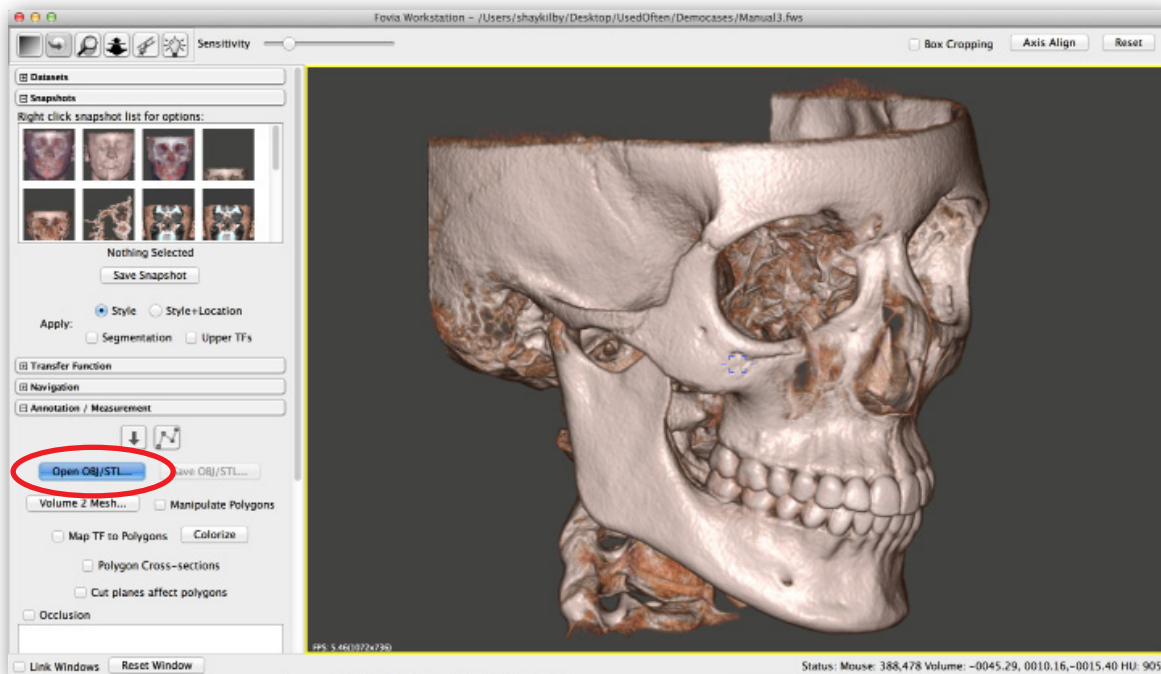
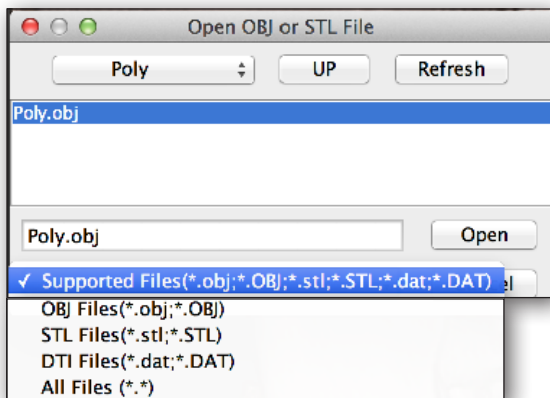

FIGURE 8.1: Polygon Import button
FIGURE 8.2: Configuration Dialogue-1
*XStream HDVR* supports real-time rendering and direct fusion of semi-transparent polygonal and volumetric data (without using a GPU). The Polygon Import function is located under the Annotation/Measurement Tab. Select the "Open OBJ/STL" button (Figure 8.1). A dialogue box will open to retrieve your file (Figure 8.2).